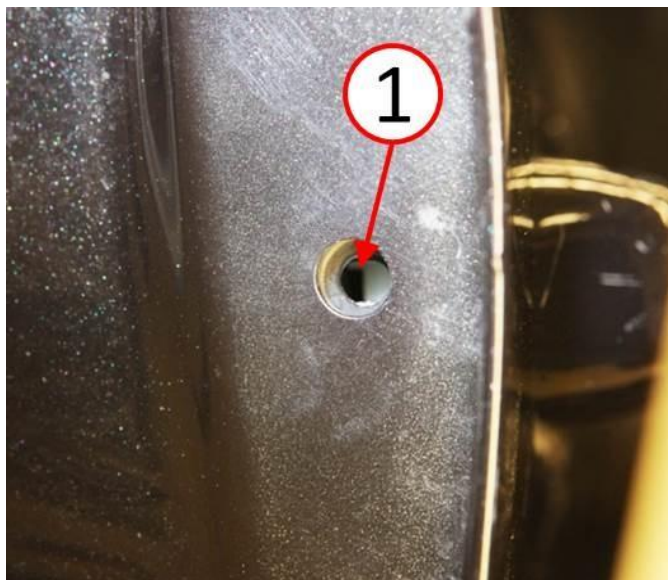

Fig. 2 Door Handle Cap Retainer Access
2. Note the white plastic edge of the door handle cap retainer as viewed through the access hole (Fig. 2).